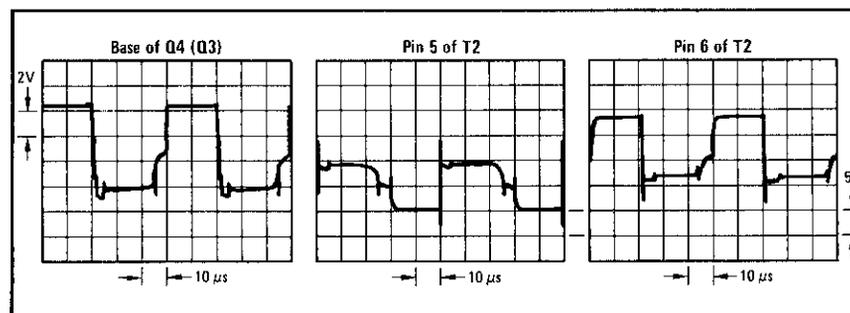

Figure 8-903. Switching Transistor Drive Signals
9. Disconnect the line cord from the rear panel of the Generator. Set the switch on the A7A3 extender board to the "out" position. With the switch in this position, no high voltage reaches the A7A3 assembly and the drive signals to the switching transistors can be observed. Compare the actual waveforms to those in Figure 8-903 below.